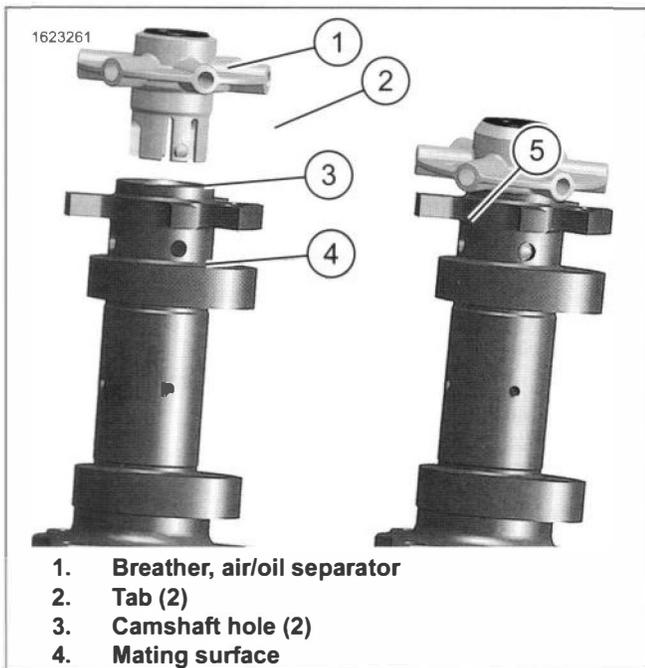
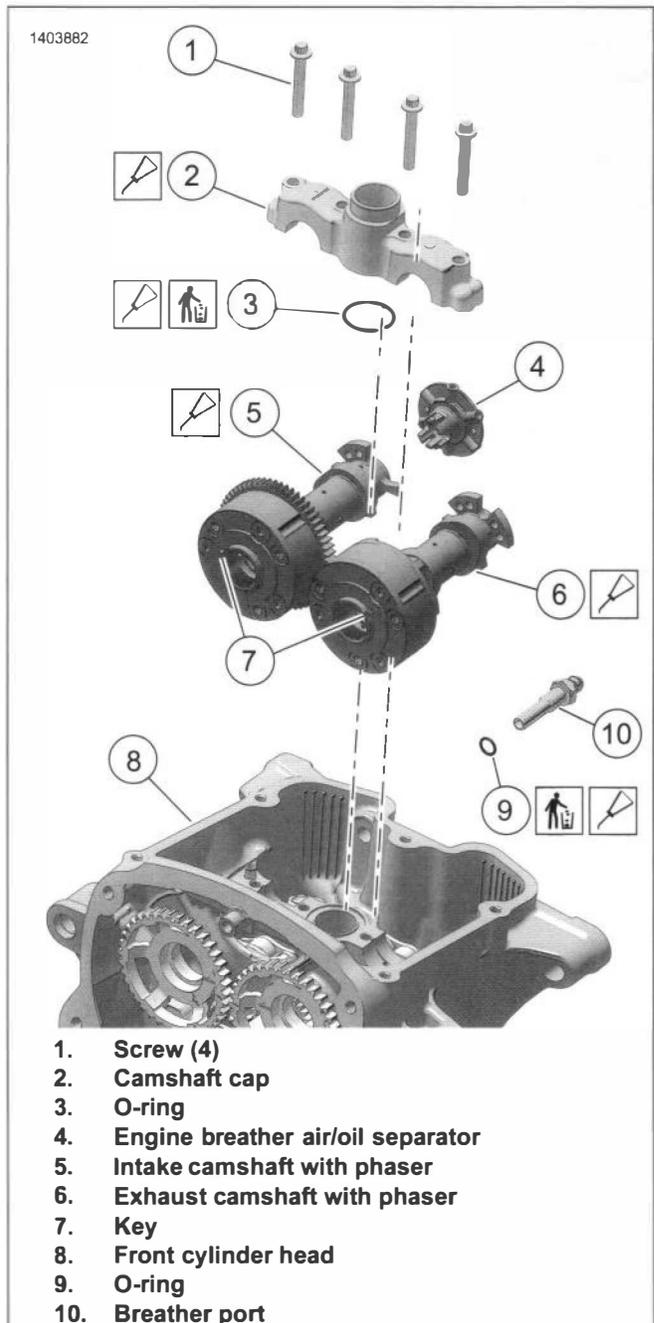

Figure 4-41. Breather, Air/Oil Separator
Figure 4-43. Camshafts, Front Cylinder Head
4. See Figure 4-43. Inspect breather, air/oil separator (4).
- a. See Figure 4-41. Align tabs (2) with camshaft holes (3), install breather (1).
- c. Verify mating surfaces (4) are fully seated.
6. See Figure 4-43. Install intake camshaft.
- c. See Figure 4-43. Align key (7) in phaser with keyway in camshaft sprocket.
- c. Align key (7) in phaser with keyway in camshaft sprocket.
- d. See Figure 4-43. Install exhaust camshaft (6).
8. Lubricate **new** O-ring (3) with fresh oil and install.
- b. See Figure 4-43. Install camshaft cap (2).
- c. Install screws (1).